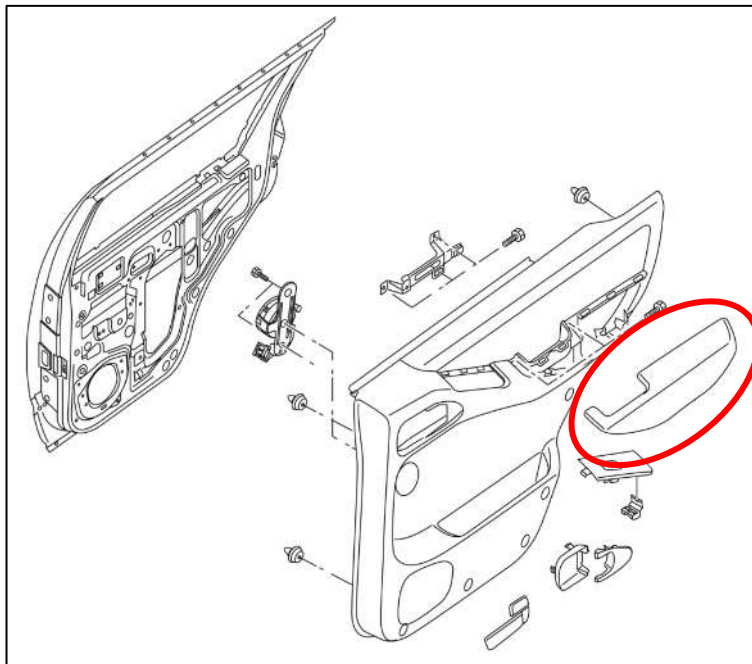

Figure 82
3. Remove the Trim Piece on the Arm Rest with a Trim Removal tool. *Figure 82.*